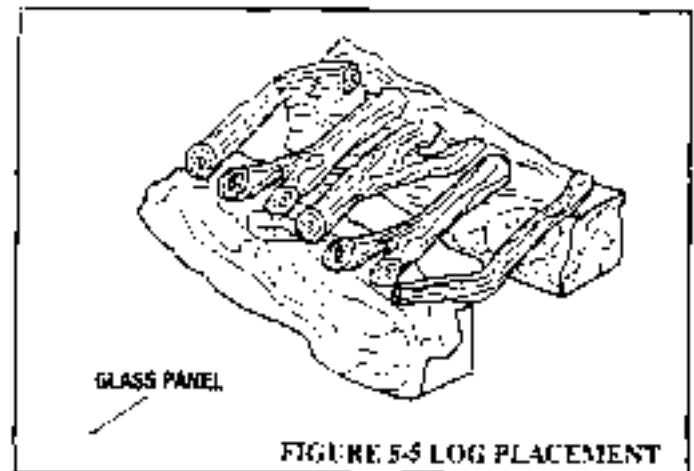

FIGURE 5-5 LOG PLACEMENT
The Marco CCT41 includes a seven (7) piece log set. Alignment pins and slots are provided to ensure proper spacing and location. Refer to Figure 5-5.
1. Put the logs in place as shown in Figure 5-5.